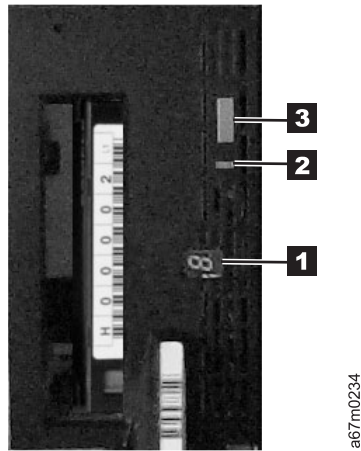

Figure 79. Resetting the Tape Drive
4. Carefully reach through the magazine slot, then press and release the eject button  (see Figure 79 on page 202) on the front of the drive and wait for approximately two minutes. If the cartridge ejects the procedure was successful. If the cartridge does not eject continue with the next step.
5. Press and hold the eject button  (see Figure 79 on page 202) for at least 10 seconds. The single character display  (see Figure 79 on page 202) should change as the drive performs a power-on self test (POST). If this does not happen cycle power to the library (turn it off, then on again).
6. After a reset or power cycle, the drive should start a slow rewind. During the slow rewind the activity LED  (see Figure 79 on page 202) will be flashing. You must wait for the LED to stop flashing, indicating that the slow rewind is complete. **This process may take up to 20 minutes.**
7. Press and release the eject button  (see Figure 79 on page 202) on the front of the drive and wait for approximately two minutes. If the cartridge ejects the procedure was successful.